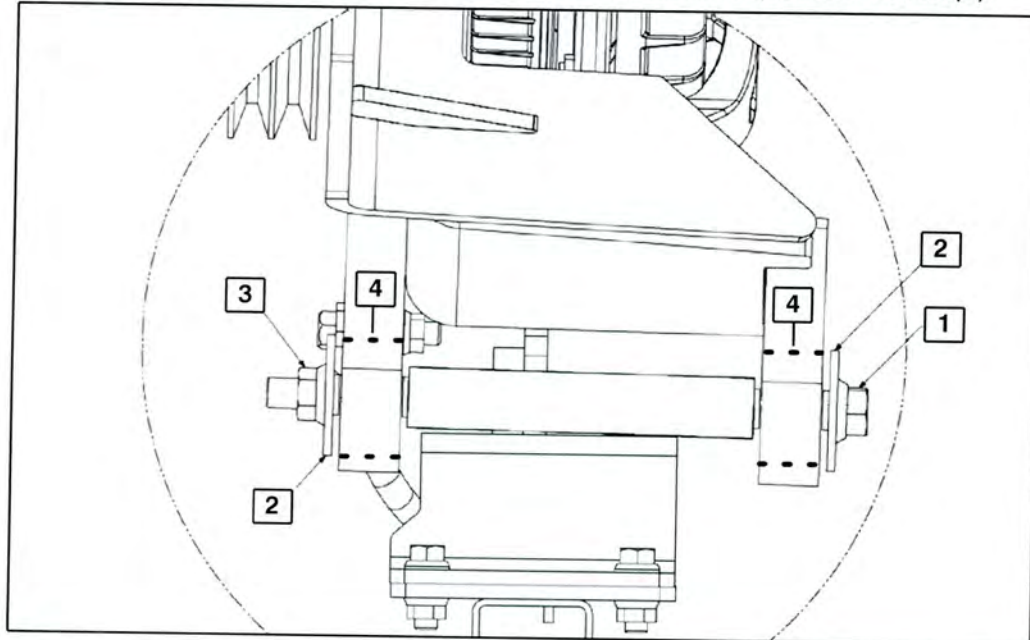

Figure 5.
If the bushings located at the fan clutch bracket (refer to Item 4 in Figure 5) show visible signs of any damage or lateral displacement, take a digital photo and contact the MCI Fleet Support Technical Center at 1-800-241-2947 for further information.
10. Orient and install new capscrew, p/n 19-01-1518, washers, p/n 19-02-0388, and nut, p/n 19-03-0497 as shown in Figure 5. Tighten nut to secure installation (the nut will be torqued at a later step).